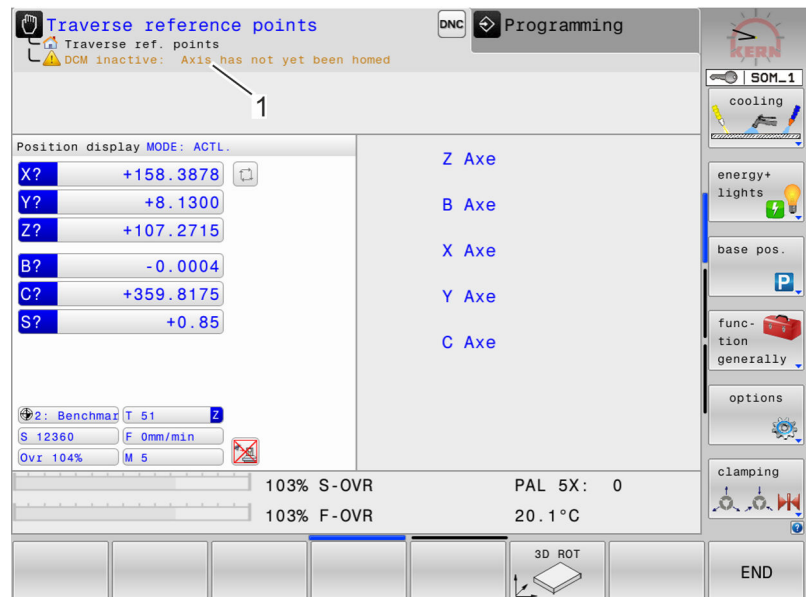

Fig. 41: Warning notice for reference run
- 10.** Confirm the warning notice on the monitor (Fig. 41/1) with the [NC-Start] illuminated pushbutton.